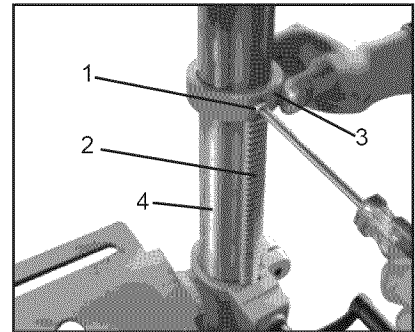

Figure 2C
- 2.4 Slide rack retaining ring (3) over column with beveled edge down. Position ring against top of rack so that rack is in beveled edge of ring. **Fig. 2B** Secure ring with set screw (1). **Fig. 2C**